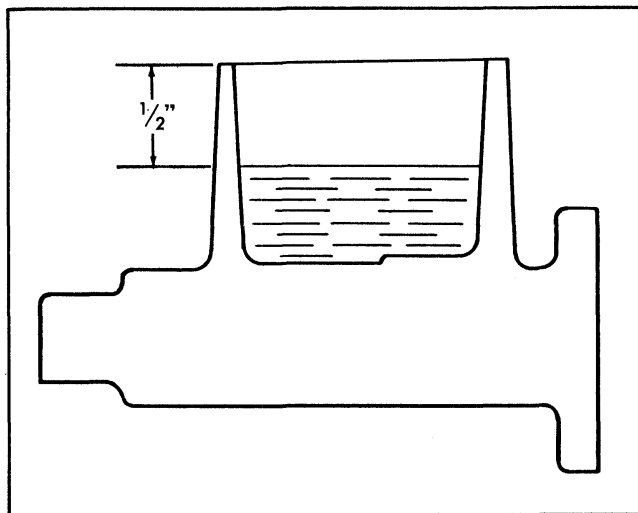

Fig. 5-3 Correct Fluid Level in Master Cylinder
4. When bleeding operation is completed, refill reservoir to within 1/2" of top of master cylinder and then replace filler cap (Fig. 5-3).